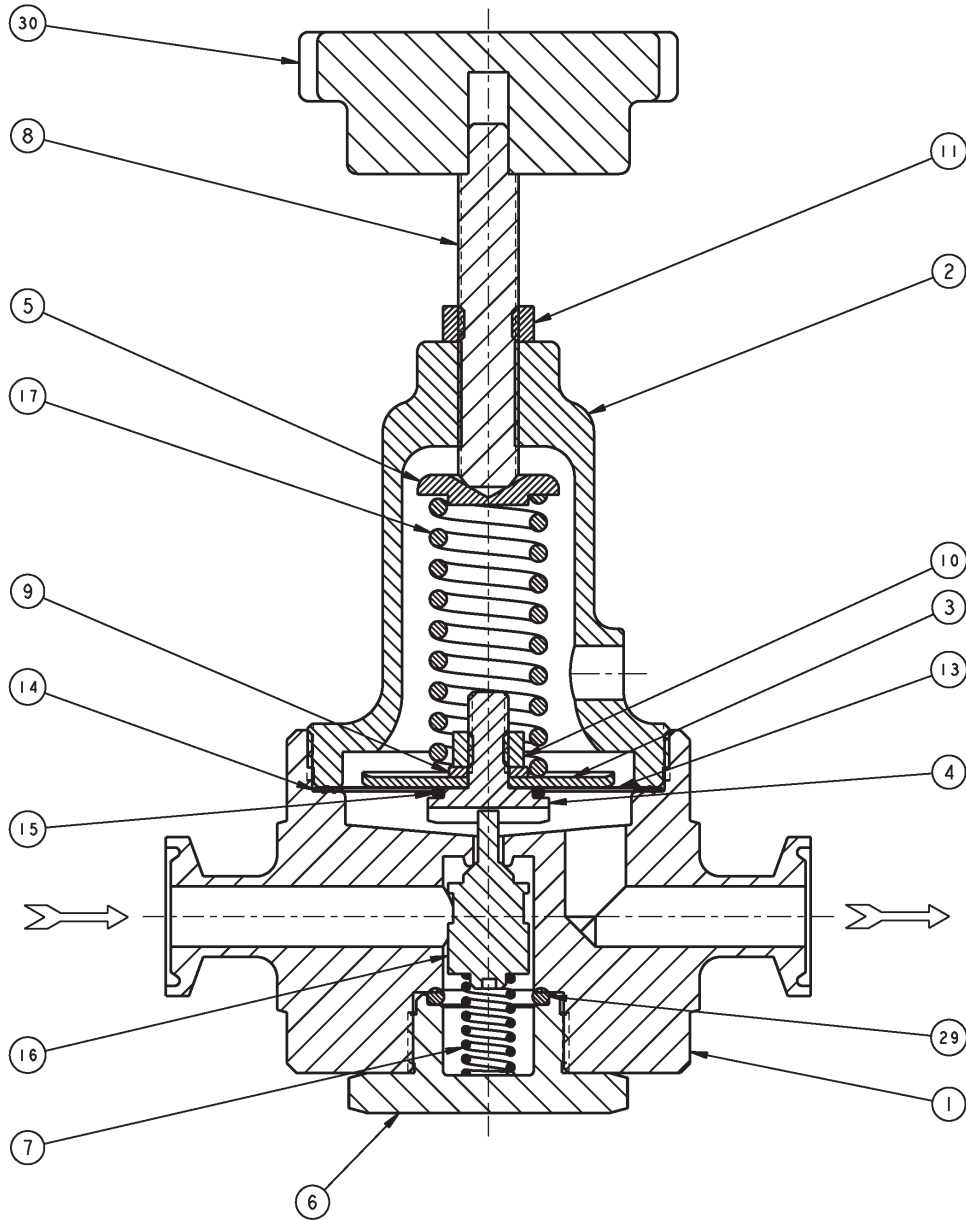

Figure 2: Basic Model 5381, Metal Seat Design
3. Refer to Figure 2 for basic regulator, item number reference ().